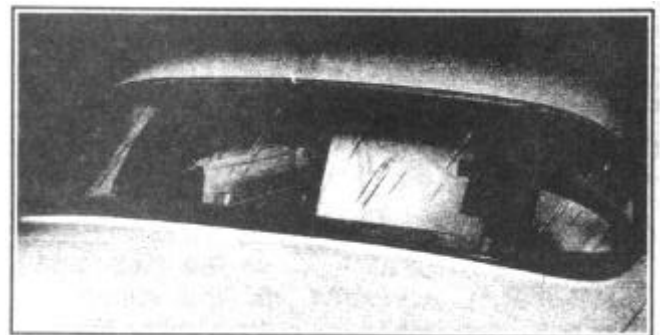

FIGURE 197
1. With the three glass section installed in the weatherstrip, pull the weatherstrip tight around the glass and place pieces of 2" masking tape completely around the glass and also vertically tying the weatherstrip and glass sections tightly together as a unit, Figure 197.